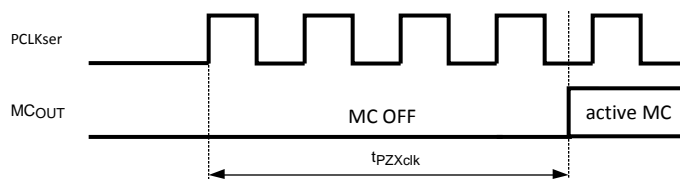

Figure 4. Stop PClock Power Up
| t _{PZXclk} | Enable Time - Clock Start | PCLK to MC _{OUT} Figure 4 | | (4) | | |